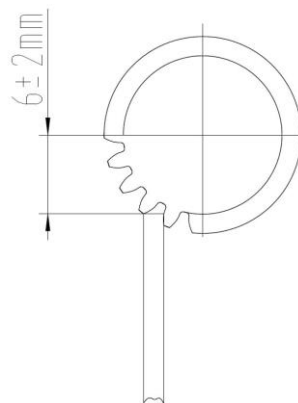

Fig 5-23
(2) In the case when adjusting lever is pulled, and the adjuster cannot do the abovementioned action, the following items shall be examined:
b) Examine whether or not the relationship in arrangement between adjusting lever and adjusting gear is correct. Refer to Fig 5-23 and replace the parts if not satisfactory. In addition, examine whether or not lever and gear are in contact with each other.